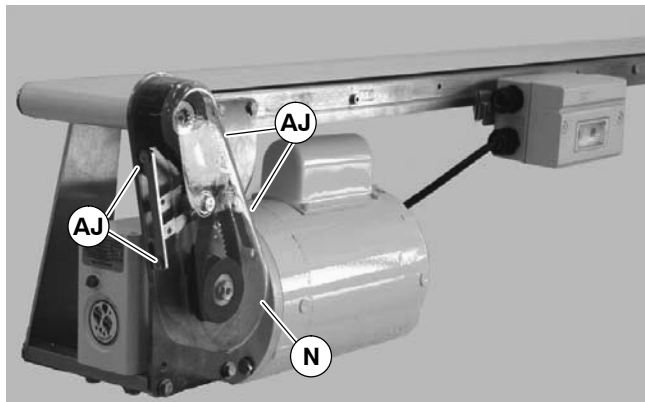

Figure 35
NOTE: Do not over-tighten screws (AJ of Figure 35).
- Attach cover (N of Figure 35) with four (4) screws (AJ). Tighten screws to 35 in-lb (4 Nm).